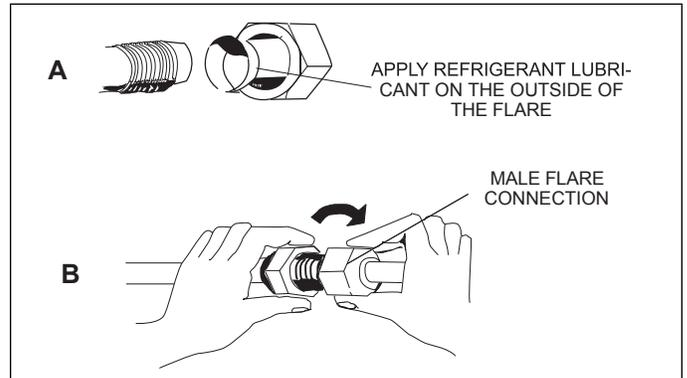

Figure 21. Making Connections (Male to Female Connection)
16. Align the threaded connections with the flared refrigerant lines. Tighten the flare nuts lightly at first to obtain a smooth match as illustrated in “Figure 21. Making Connections (Male to Female Connection)”.